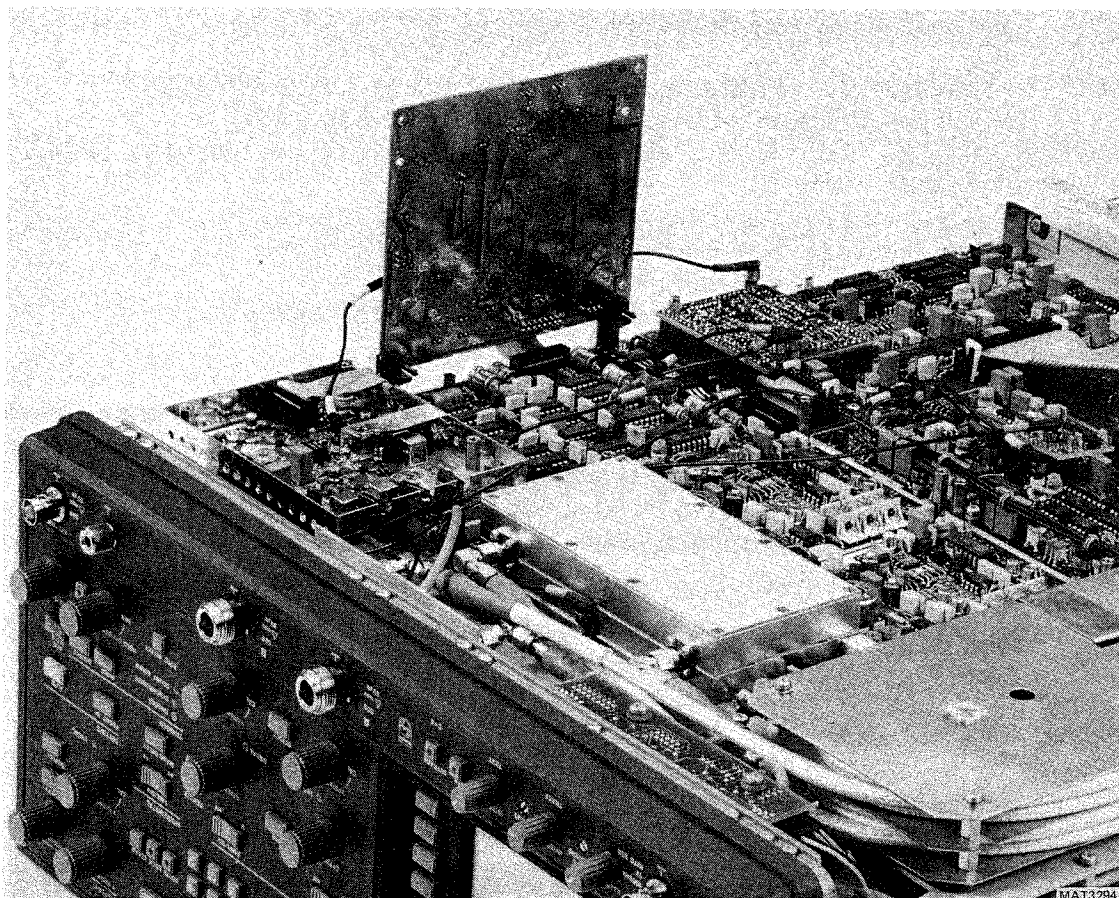

Figure 10.3 Access to trigger control unit.
To get access to the trigger control unit A34 the three stage trigger unit A32 can be turned up as shown in figure 10.3.
- Turn the unit up and place it on the two supports as shown in figure 10.3.